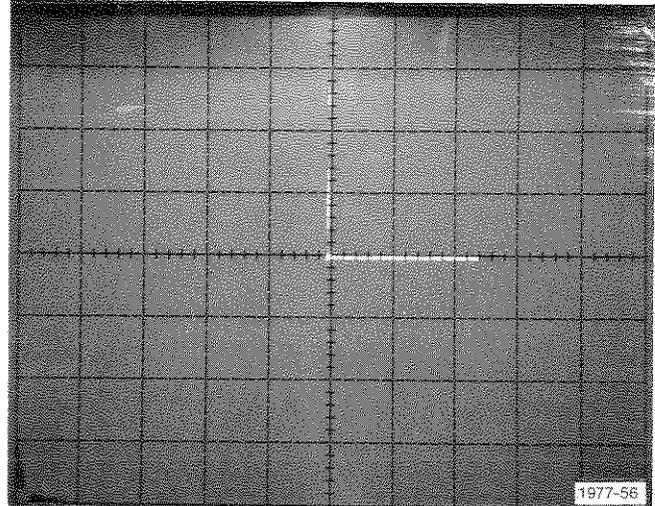

Fig. F-4. Typical display of common-mode voltage range.
c. Since the specified CMVR for this device is 2 volts less than V+, check that the limit of CMVR is 24.8 volts in accordance with Fig. F-4 in the following text. The display must still be flat at 24.8 volts (2.48 divisions to the right of the display zero reference point).